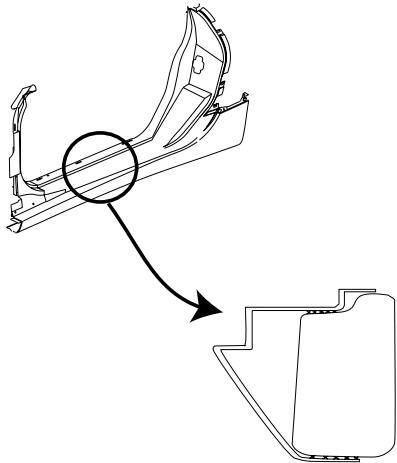

Fig. 3.34—
- 4 Apply heat and pry to break bond along area indicated in Fig. 3.34. (NOTE: Use caution along the underside of the vehicle when applying heat not to de-bond the floor panels from the frame rail.)
- 8 Apply adhesive to inner edge of rocker and clamp in place until adhesive cures. (NOTE: Standoffs in part must fit flush against bottom surface of rail). See Fig. 3.34.